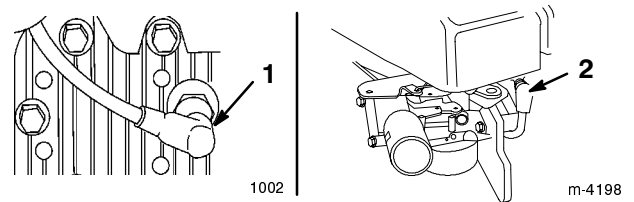

Figure 30
2. Disconnect the wire from the spark plug (Fig. 30).
2. Remove the spark plug (Fig. 30).
3. Remove the spark plug (Fig. 30) and spin the engine rapidly using the starter to blow the excess oil from the cylinder.